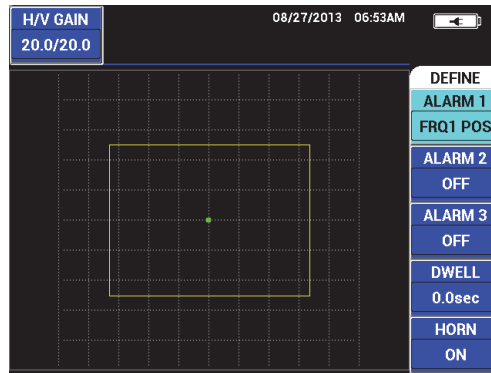

Figure 5-243 Alarm polarity
1. Press the A key, and then use the knob to select the alarm polarity. After the polarity is selected, a box is displayed on the screen (see Figure 5-243 on page 302).